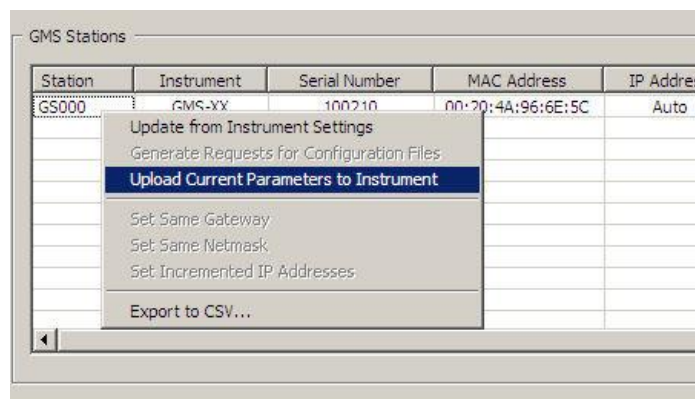

Figure 30. Upload parameters to the instrument
- Make a right click on the station name and select **Upload Current Parameters to Instrument** as shown in the Figure 30.